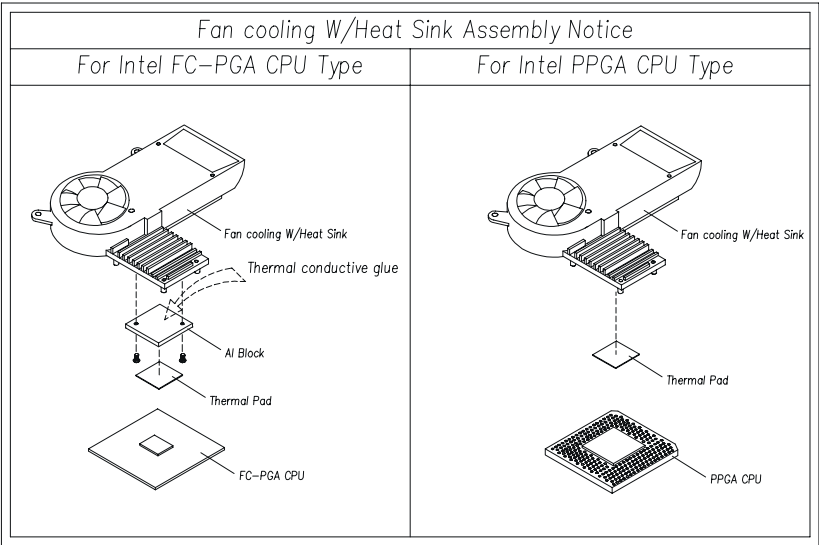

Figure 2-2: Fan cooling with heatsink assembly installation
The PPC-103's CPU (Central Processing Unit) can be upgraded to improve system performance. The PPC-103 provide one 370 socket. The heat sink assembly which comes with the machine must be installed to prevent overheating. If the CPU is type FC-PGA, the CPU metal plate which comes in the accessory box must be installed on the top of the CPU as shown in Figure 2-2.
7. If the CPU to be installed is Type FC-PGA. A CPU metal plate must be installed. First apply a even thickness of the silicone heat sink paste on the top of the CPU. The CPU metal top plate is then placed on the top of the paste (Figure 2-2).